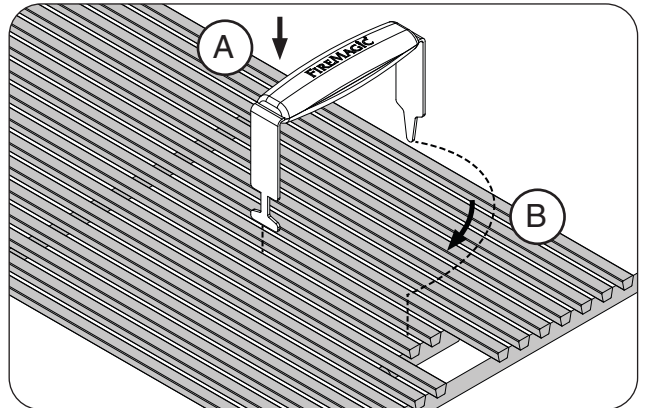
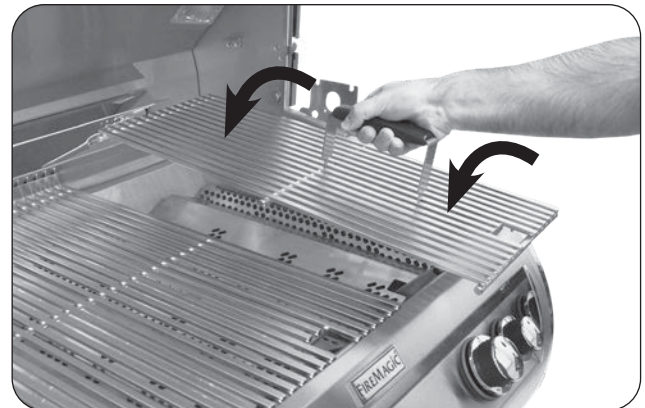

Fig. 21-2 Install cooking grids
Fig. 21-3 Install cooking grids
1. With the prongs facing downward, insert the notched-end of the lifter between two grid rods, then rotate, as shown in Fig. 21-2, A & B.
2. Insert the rear pointed-end of the lifter between the same two rods (Fig. 21-2, B) and carefully lift the cooking grid and place onto the front and rear grid rests of the grill (see Fig. 21-3). Repeat for all other cooking grids.